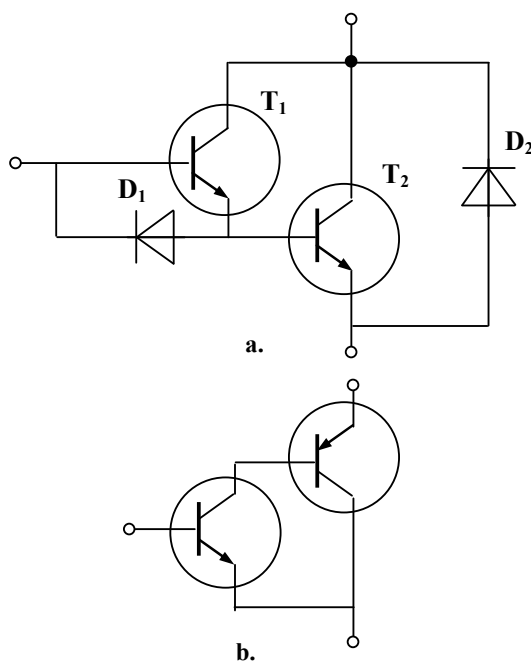

Fig. 1.30
**Darlington transistors.** Since the current gain of power bipolar transistors is small, two transistors are usually connected as a pair (Fig. 1.30,a). Such connection consists of the cascaded emitter followers. The emitter of the first transistor is connected to the base of the second one. A connected pair of bipolar transistors could raise the current gain of a power device. Commonly, this connection is designed monolithic because manufacturers put two transistors inside a single housing. This three-terminal device is known as a *Darlington transistor*. The summary current gain of such connection of two transistors  $T_1$ ,  $T_2$  is expressed as
The complementary Darlington circuit shown in Fig. 1.30,b is a combination of the pair of bipolar transistors of different structures. Its current gain is equal to